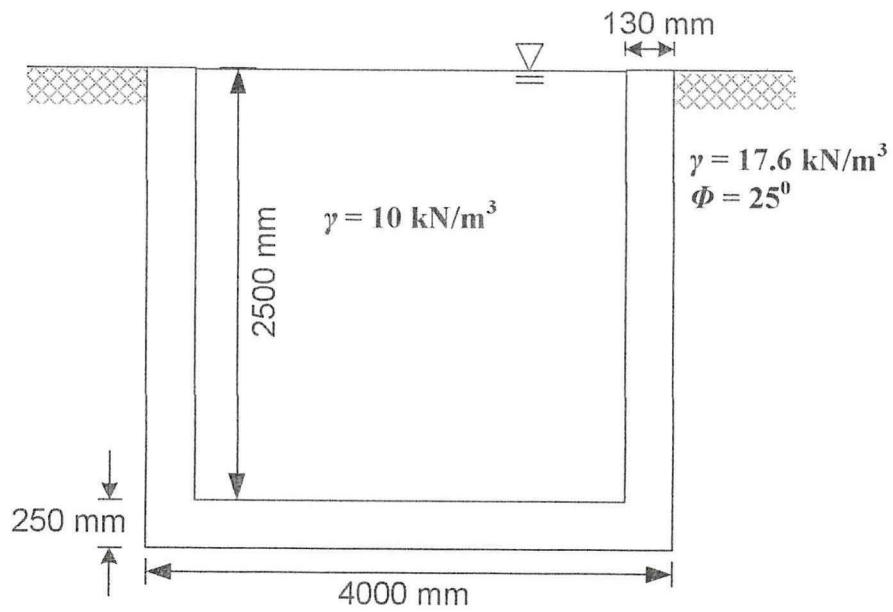

FIGURE Q3
- (c) **Figure Q3** shows the section of a rectangular water tank.